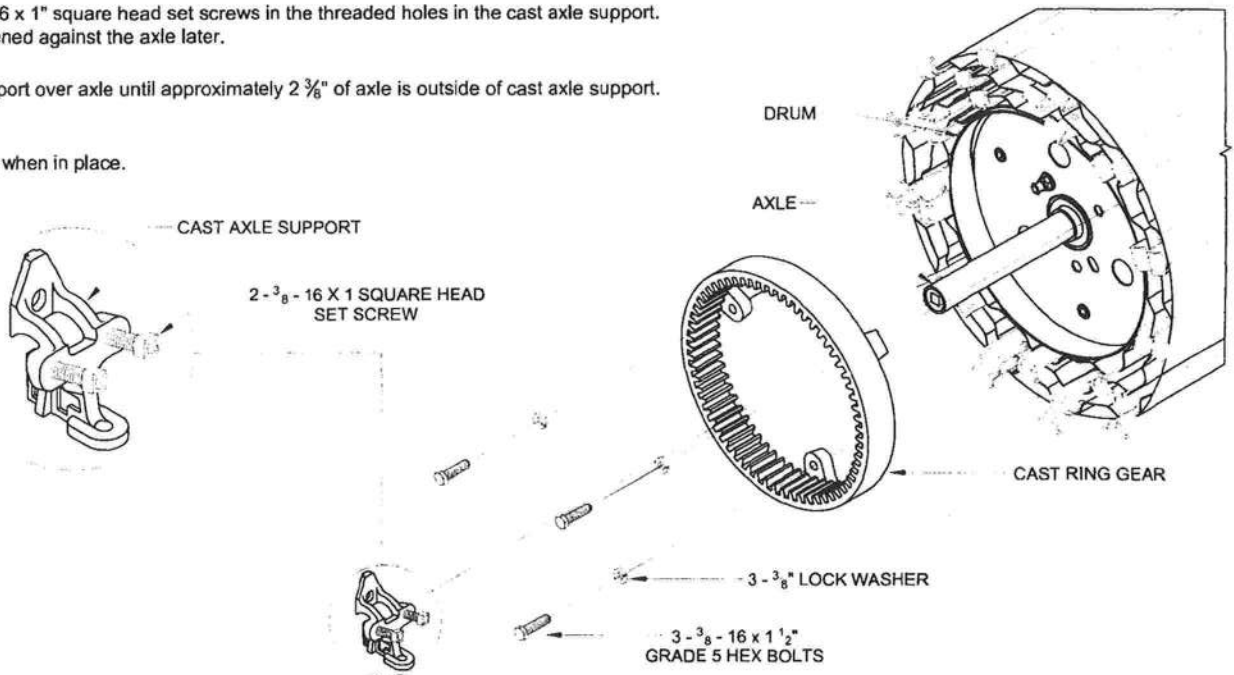

FIGURE 14: CAST AXLE SUPPORT AND CAST RING GEAR TO DRUM ASSEMBLY
- ◇ Slide cast axle support over axle until approximately $2\frac{3}{8}$ " of axle is outside of cast axle support. See Figure 14.